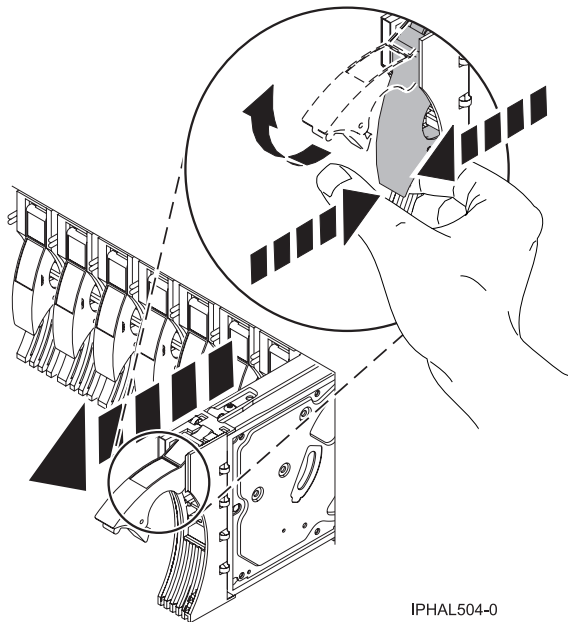

Figure 92. Removing a disk drive from a model or 7311-D20
1. Unlock the disk drive handle by squeezing it and pulling it out toward you, as shown in Figure 92.